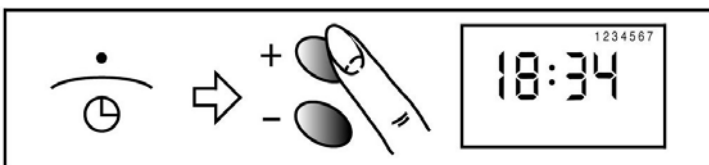

Fig.7
1. Turn the mode selector switch to the  position. (see Fig.7)